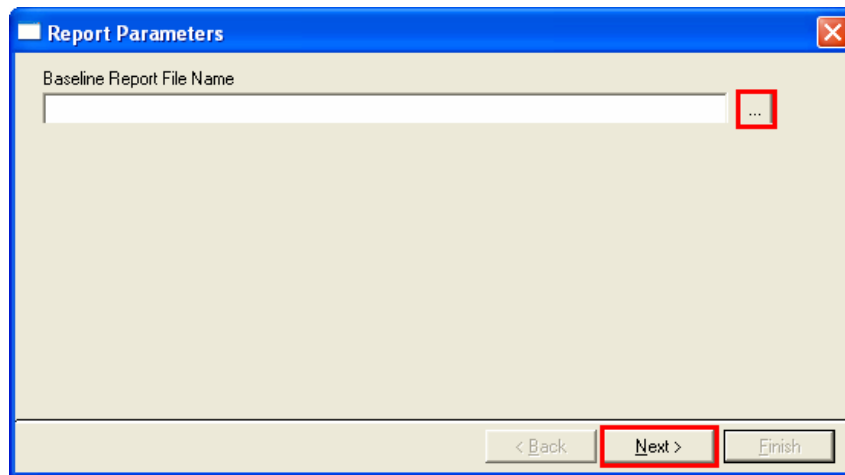

Figure 4: Report Parameters Dialog Box
9. The **Report Parameters** dialog box appears as shown in Figure 4. You can click browse to select a baseline report if you want to compare the report with any previously created report.